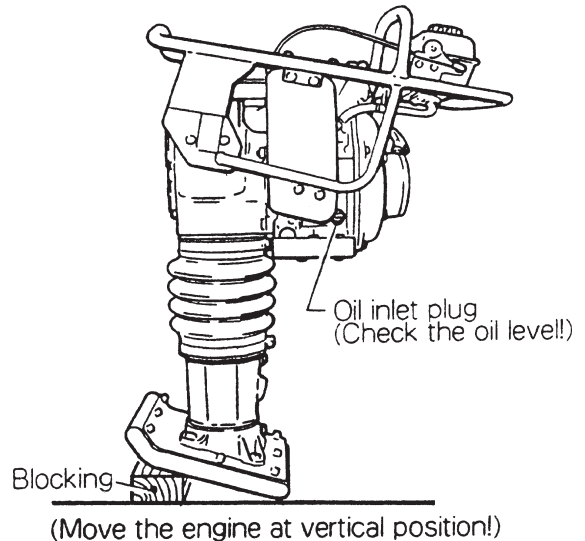

Figure 4. Oil Level
2. For checking the oil level, move the engine to vertical position and check that the oil is level with the oil inlet (about 700cc). See Figure 4.